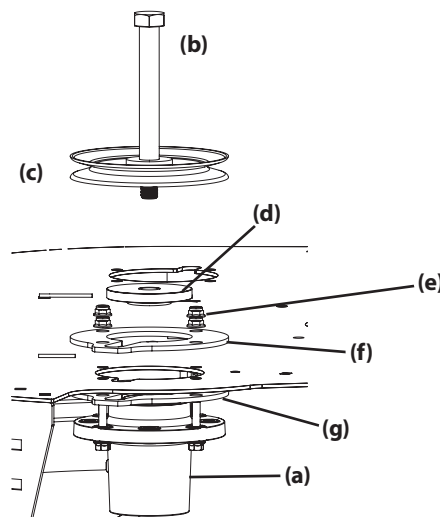
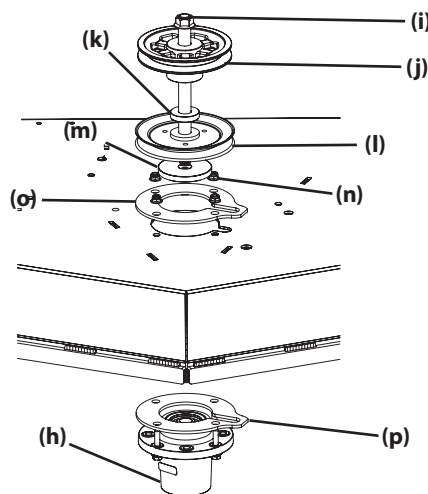

Figure 44
Figure 45
- Remove the hex bolt (b), pulley (c) and spacer (d) spacer from the spindle assembly (a). See Figure 44.
- Remove the four flange lock nuts securing the (e) upper support plate (f), lower support plate (g) and spindle assembly (a) to the deck. See Figure 44.
- Remove the hex bolt (i), drive pulley (j), washer (k), spindle pulley (l) and spacer (m) from the front spindle assembly (h). See Figure 45.
- Remove the four flange lock nuts securing the (n) upper support plate (o), lower support plate (p) and front spindle assembly (h) to the deck. See Figure 45.
- Reverse the process to install the spindle assembly. When installing the new spindle assembly be sure to install the hardware exactly as shown in Figure 44 and Figure 45. Torque the hex flange bolts to 250 ft-lbs. (338.95 N-m) and the flange lock nuts to 21-32 ft-lbs (28.47-43.39 N-m).